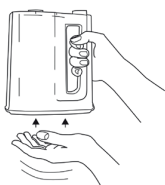

Figure 1
2. Observe that when handling the absorber channeling of the soda lime might occur. The channeling can reduce the CO₂ absorption capacity of the product resulting in early CO₂ breakthrough. Channeling can be removed by tapping the canister gently on a hand or on a table 3–4 times in the orientation in which it will be installed (see Figure 1).